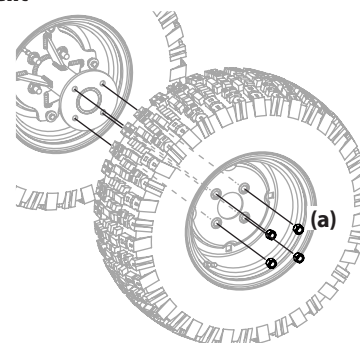

Figure 46
1. Remove the four outer lug nuts (a) to remove the outer wheel. See Figure 46.